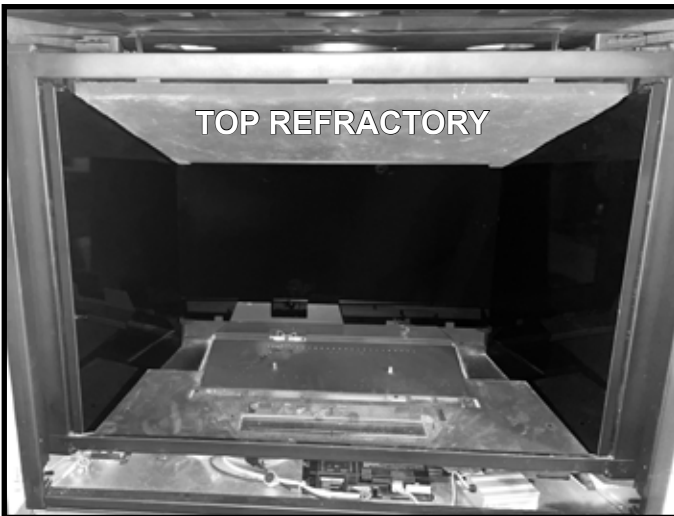

Figure 12 Top Refractory Installed
13. Install top refractory panel. Rest it on top of the side glass panels and gently push to the back of firebox until it rests on back refractory panel. See Figure 12.